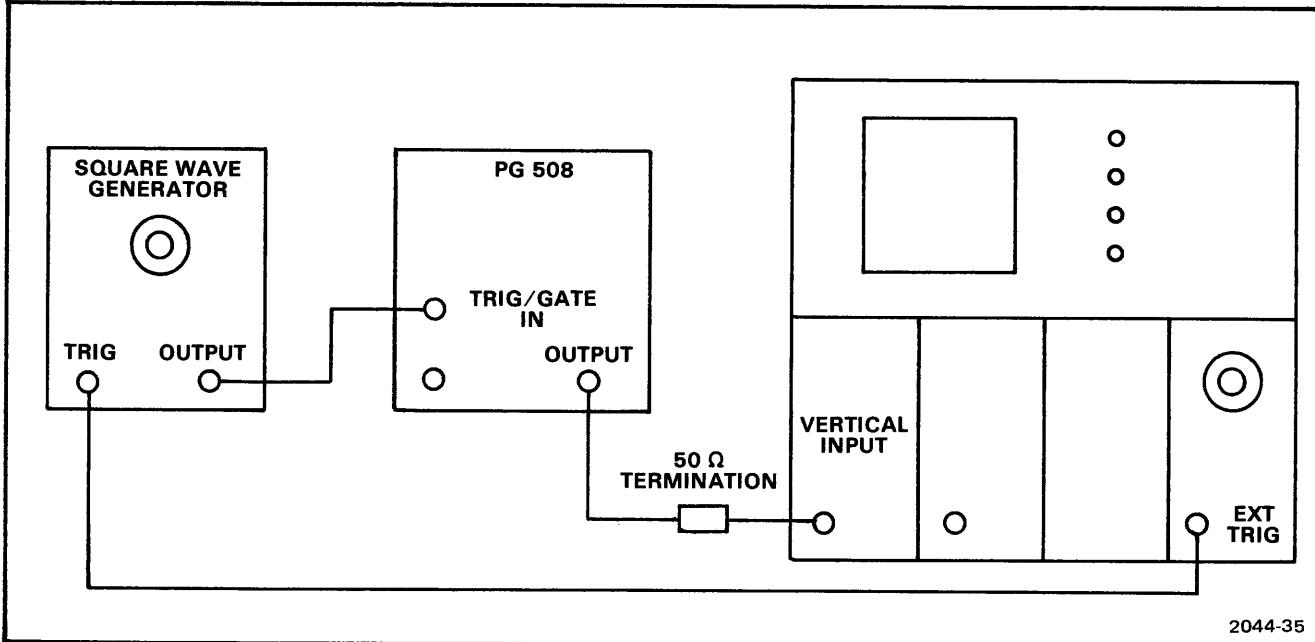

Fig. 4-3. 1st period adjustment instrument connections.
b. Connect a coaxial cable from the OUTPUT of the PG 508 through a 50 Ω termination to the vertical input of the oscilloscope. See Fig. 4-3.
- c. Trigger the oscilloscope externally from the square wave generator. (See Fig. 4-3).
- a. Connect the instruments as shown in Fig. 4-3.